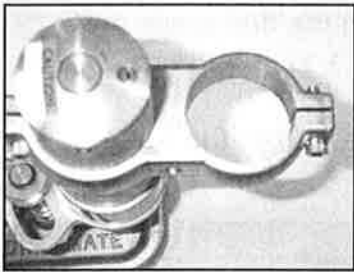

Figure 1
With the VAC-FORCE unit placed in the working position and the Drill Feed Lever in the down position, check if there is constant air being exhausted from the air cushion relief valve, **See Figure 1**. If air is exhausting at this point, air is bypassing the main seal on the cylinder rod. This requires that the cylinder be dismantled and the seal replaced. Refer to "Cylinder Repair" in this section.
If no air is bypassing the air cushion relief valve shown in Figure 1, and the cylinder still fails to operate, the bottom seals of the cylinder may be leaking. Check the bottom of the cylinder for air leak. If air is bypassing the seals when the Drill Feed Lever is in the down position, the cylinder needs to be removed from the vacuum base and the seals replaced. Refer to "Cylinder Repair" in this section.
1. Remove Tear Drop nut with 5mm allen wrench. **See Figure 1.**